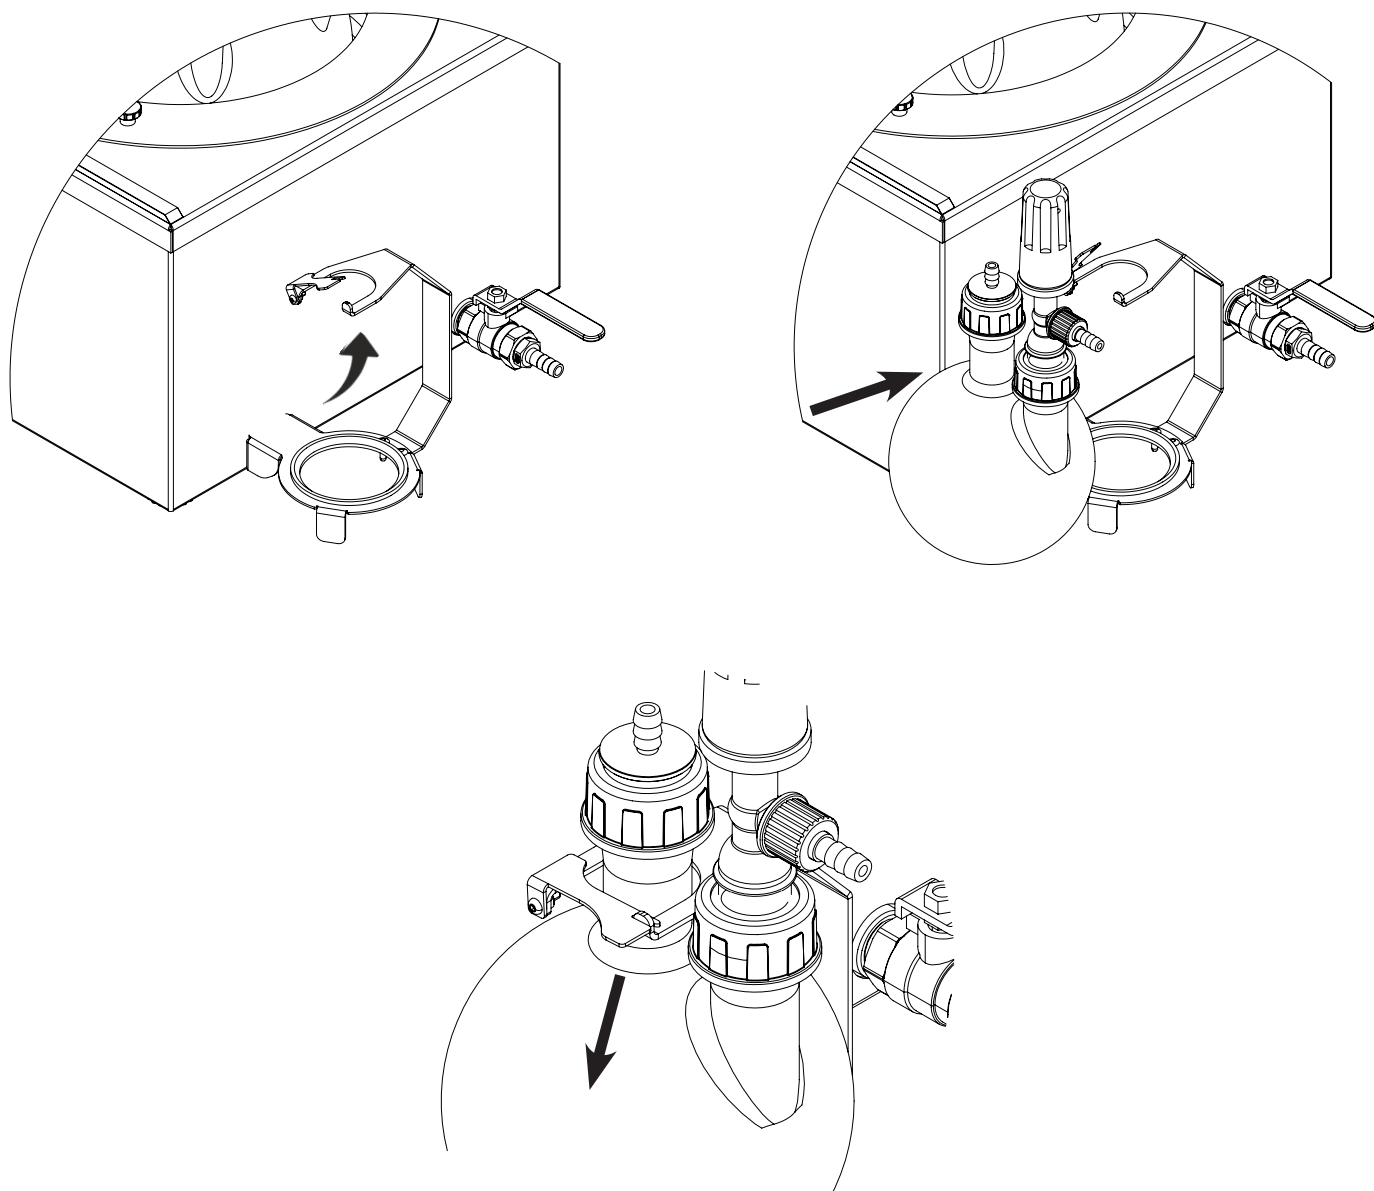

Fig. 25
- Place the receiver flask assembly on the flask holder as shown in fig. 25.
- Connect the receiver flask to the condenser using a silicone tube as shown in fig. 25.